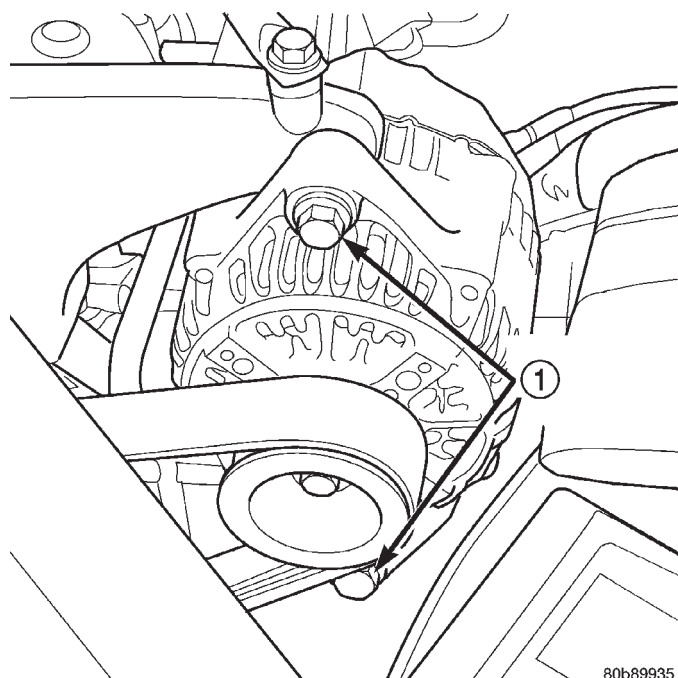

Fig. 2 Generator Mounting Bolts
- (5) Remove upper generator mounting bolt (Fig. 2).
- (6) Remove lower generator mounting bolt (Fig. 2) and remove generator from vehicle.
- (7) Reverse the removal procedures for installation. Tighten hardware in order as follows: